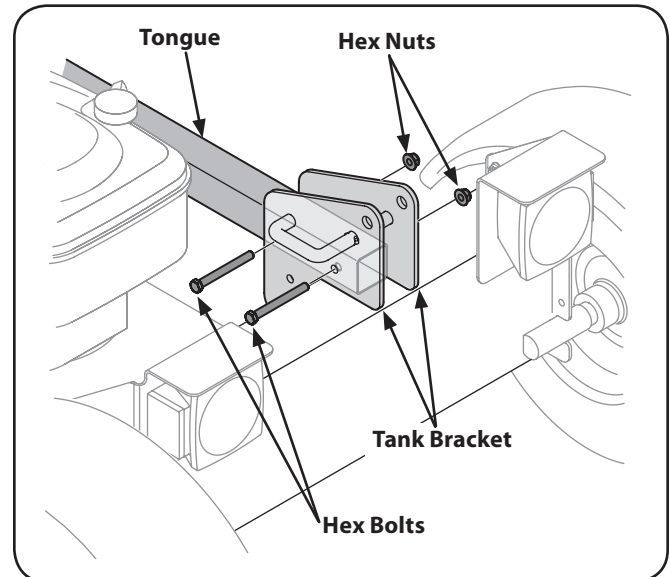

Figure 3-2
1. With the log splitter still standing upright, remove two hex bolts and hex nuts from the tank bracket. See Fig. 3-2.
2. Align the holes in the tongue with the holes in the tank bracket and secure with the hardware just removed. See Fig. 3-2.